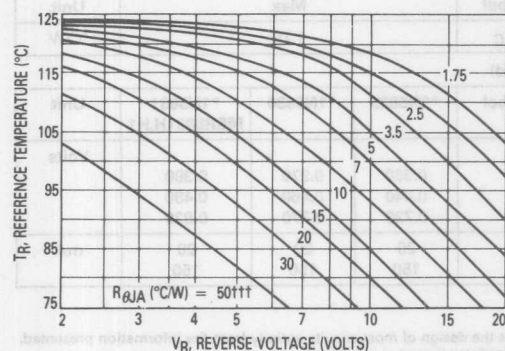

Figure 1. Maximum Reference Temperature — 1N5829
Figures 1, 2 and 3 permit easier use of equation (1) by taking reverse power dissipation and thermal runaway into consideration. The figures solve for a reference temperature as determined by equation (2):
Inspection of equations (2) and (3) reveals that T_R is the ambient temperature at which thermal runaway occurs or where $T_J = 125^\circ\text{C}$, when forward power is zero. The transition from one boundary condition to the other is evident on the curves of Figures 1, 2 and 3 as a difference in the rate of change of the slope in the vicinity of 115°C .
The data of Figures 1, 2 and 3 is based upon dc conditions. For use in common rectifier circuits, Table 1 indicates suggested factors for an equivalent dc voltage to use for conservative design; i.e.: